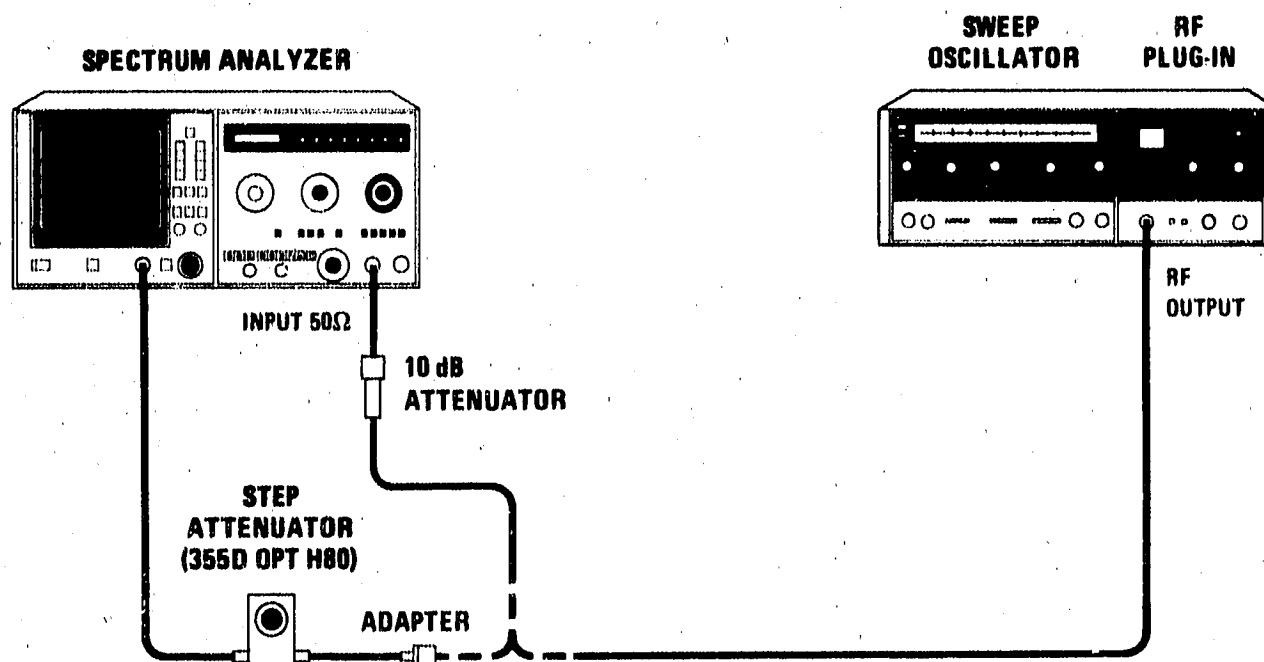

Figure 4-14. Input Attenuator Accuracy Test Setup
2. Connect equipment as shown in Figure 4-14 using CAL OUTPUT signal through 10-dB attenuator and 10-dB step attenuator. Set step attenuator to 0 dB. Adjust spectrum analyzer TUNING control to center signal on CRT.
- Disconnect step attenuator from spectrum analyzer input and connect sweep oscillator output through 10 dB attenuator as shown in Figure 4-14.